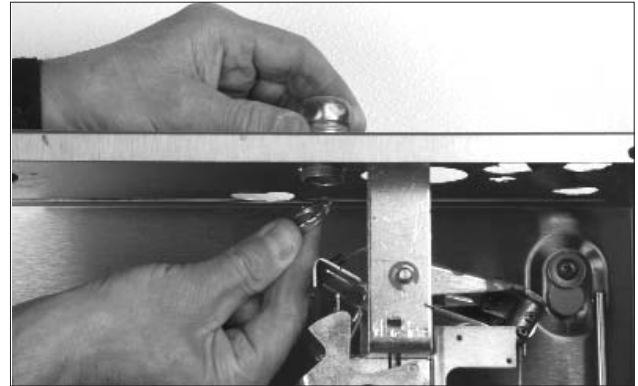

FIGURE 47
2. Starting at the ANSUL AUTOMAN Release, connect the conduit connector using the supplied nut. Use only ANSUL conduit fittings, Part No. 55813. See Figure 47.